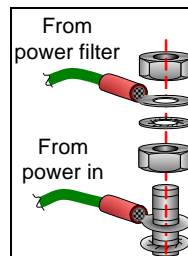

Figure 10: Stacking Order for the Ground Wires
15. Connect the ground wires to the ground stud; the wire from the power inlet should be on the bottom (see Figure 10: Stacking Order for the Ground Wires).